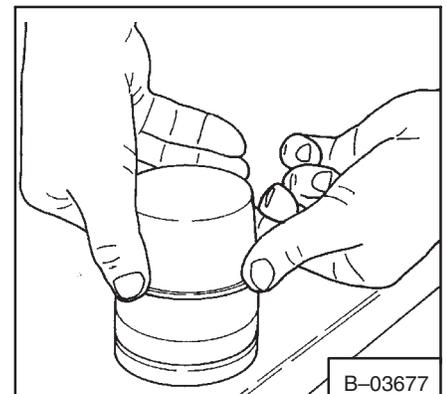

**Fig. 2-58** Installing The Piston Tool
2. Install the piston over the tool (Fig. 2-58).